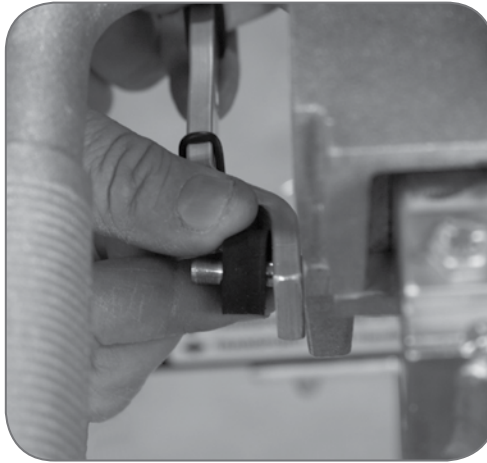

Figure 18 Removing black grommets.
1. Remove 2 black rubber grommets (See Figure 18. Twist and pull. No tools required).